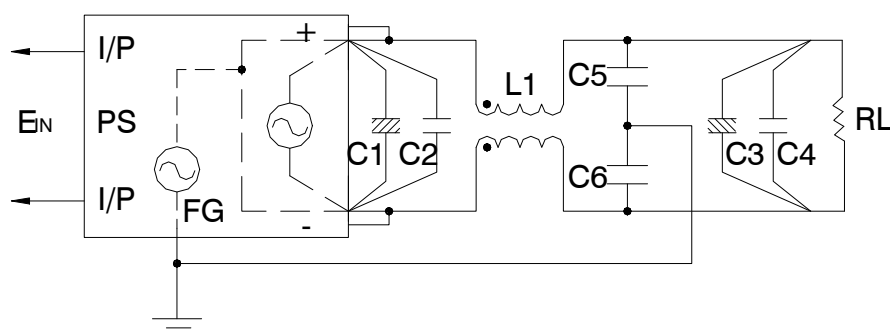

Figure 7.14: Ripple noise suppression
- (1) Input Surge: The ON/OFF of heavy industrial machine will cause variance of nearby power line voltage. Sometimes the variance is so large that specification of the S.P.S. is exceeded and in turn may damage it, so there is a “surge absorber” between AC/L and AC/N in the S.P.S. to absorb this abrupt high voltage.
- (2) Shock Suppression: Lightning shock is a type of short-term high voltage and high energy pulse. To prevent damage from shock, we should add surge absorbers between AC/L - AC/N, AC/L - FG, and AC/N - FG, which are shown in figure 7.14.
As in figure 7.14, adding C1~C4 can reduce this form of noise. C1 and C3 are electrolytic capacitors (reference value: 47 μ F~100 μ F), while C2 and C4 are high frequency capacitors (reference value: 0.01 μ F~0.1 μ F). In general, adding C3 and C4 is good enough to reduce this noise.
As in figure 7.14, adding L1, C5, and C6 can reduce the common mode noise. C5 and C6 are high frequency capacitors.